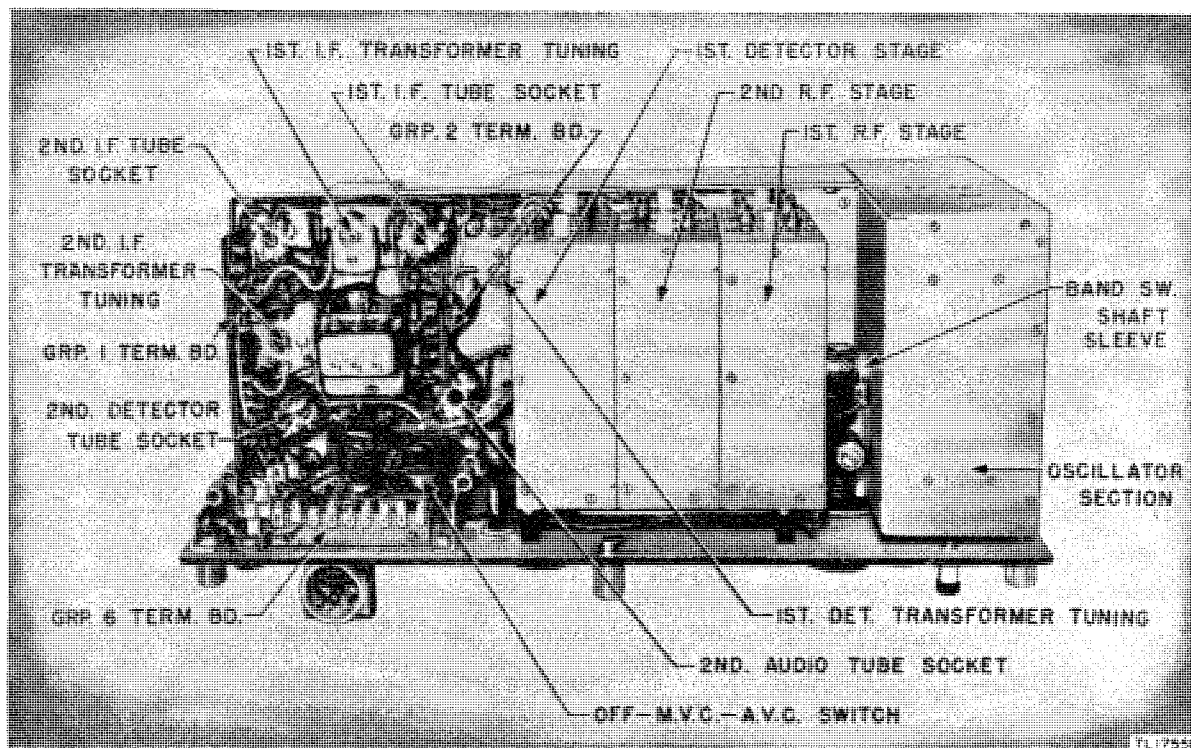

Figure 14. Receiver chassis, bottom view.
(1) The resistance between terminals D and T, the two large pins of socket SO1, should be infinite, except in receivers containing an oscillator compartment heater. In these receivers, the resistance reading should be 4 ohms. A resistance reading in receivers which do not contain oscillator compartment heaters indicates a short circuit in the filament or dial lamp wiring which must be corrected before power is applied to the receiver.
(2) The resistance between terminal No. 7 of the group-6 terminal board (fig. 14) in the receiver and chassis should be approximately 16,500 ohms (± 10 percent). If the resistance is zero, check capacitors C50, C61, C74, and C80, and the high-voltage wiring. If the resistance is low, check for a shorted bypass capacitor in one of the plate or screen grid circuits, a short in the wiring of one of the plate or screen grid circuits, or leakage in capacitor C50, C61, C74, or C80. If the resistance is higher than normal, it indicates an open screen voltage dropping resistor. To prevent possible damage to the dynamotor, correct all abnormal